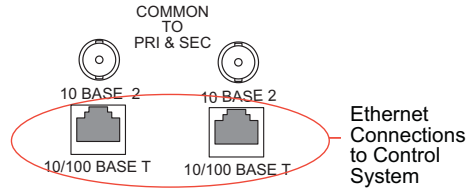

Figure 2-20. Ethernet Connections to Router Control System (Rear View)
- 1 Locate the Ethernet connections on the rear of the router, as shown in Figure 2-20. Ethernet control connections are labeled '10/100baseT'.